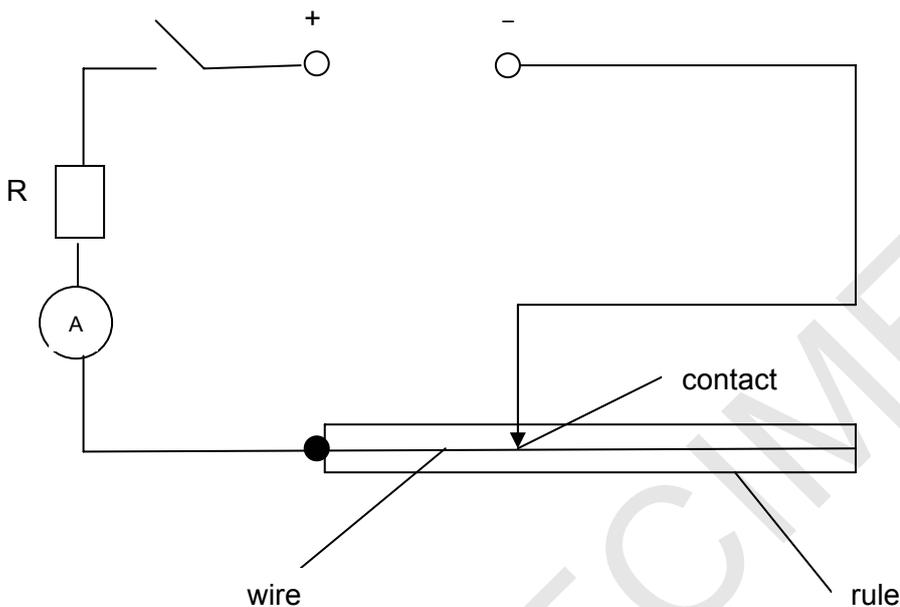

Fig 1.1
- Using the equipment provided, set up the circuit shown in Fig 1.1.
| 1 | Sets up circuits in Fig 1.1 and draws appropriate circuit diagram to measure the potential difference V and measures V without help. | [2] |